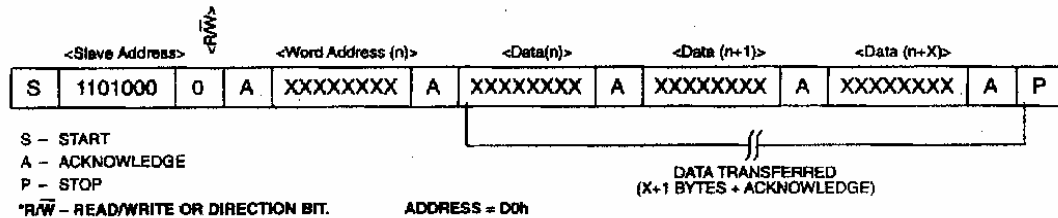

Fig.7 Data write – mode («slave» receiver)
1. **Slave receiver mode (write mode):** Serial data and clock are received through SDA and SCL. After each byte is received an acknowledge bit is transmitted. START and STOP conditions are recognized as the beginning and end of a serial transfer. Address recognition is performed by hardware after reception of the slave address and direction bit (See Fig. 7). The address byte is the first byte received after the start condition is generated by the master. The address byte contains the 7 bit IN1307 address, which is 1101000, followed by the direction bit (R/W) which for a write is a 0. After receiving and decoding the address byte the DS1307 outputs an acknowledge on the SDA line. After the IN1307 acknowledges the slave address + write bit, the master transmits a register address to the IN1307. This will set the register pointer on the IN1307. The master will then begin transmitting each byte of data with the IN1307 acknowledging each byte received. The master will generate a stop condition to terminate the data write.